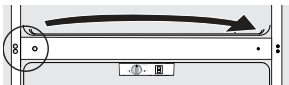

Figure 3
8. Remove the 3 pan head screws on the opposite side of the center hinge (Figure 3) and install them in the holes where the center hinge was attached.